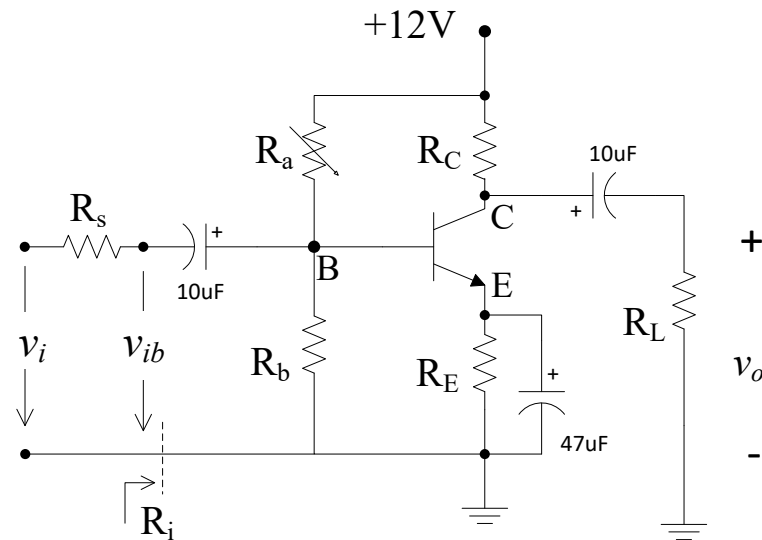

Figure 6.1: A common-emitter amplifier.
In Fig. 6.1, assuming $V_{BEQ} = 0.65$ V, $\beta = 160$, $R_s = 10$ k Ω , $R_a = 56$ k Ω , $R_b = 56$ k Ω , $R_C = 1.0$ k Ω , $R_E = 2.0$ k Ω .
- Construct the circuit in Fig. 6.1 using a npn BJT (2N3904) and $R_L = \infty$